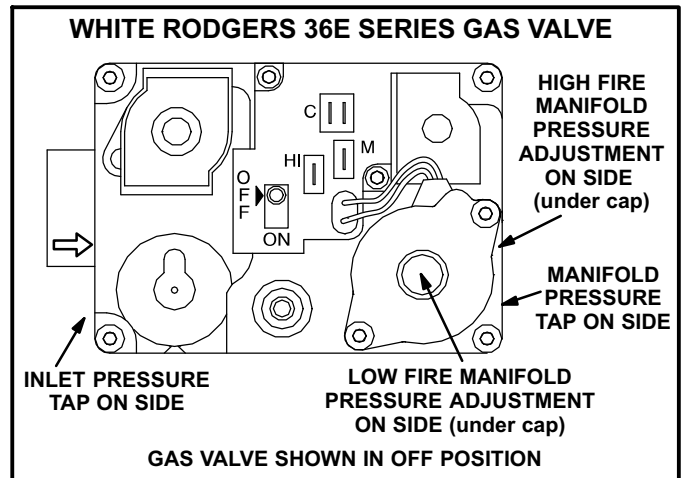

FIGURE 55
Gas Valve Operation (Figures 55 and 56)
- 6 - *White Rodgers 36E Gas Valve* - Move gas valve switch to **OFF**. See figure 55 for the White Rodgers 36E valve.
- 8 - *White Rodgers 36E Gas Valve* - Move gas valve switch to **ON**. See figure 55 for the White Rodgers 36E valve.